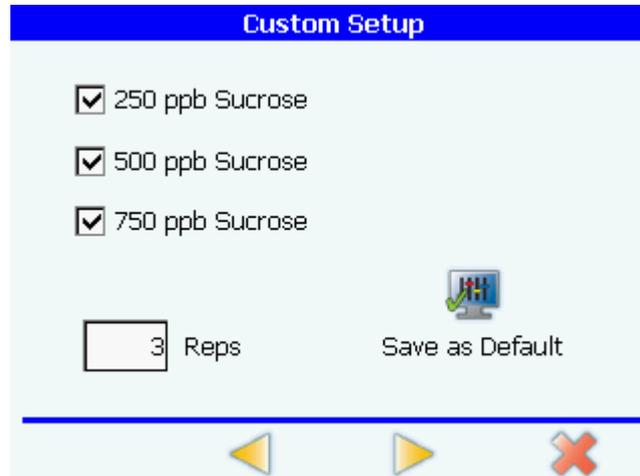

Figure 6-4 Custom setup dialog box
- If you select custom settings, the custom setup dialog box opens. See Figure 6-4. If you select custom settings and then touch the back button, the analyzer uses the default settings.
- 5) To use default settings, touch the use default settings radio button in the TOC calibration setup dialog box. To run any other configuration, touch the use custom settings radio button, then define the desired configuration. (See Figure 6-4, page 89.) The following procedure relies on the recommended default setting.